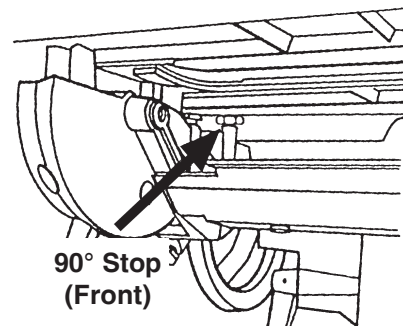

Figure 22
11. Both 90° Stops (shown in Figures. 22 and 23) should contact the underside of the Table. If they don't, use a 1/2" Wrench to adjust the Stops.